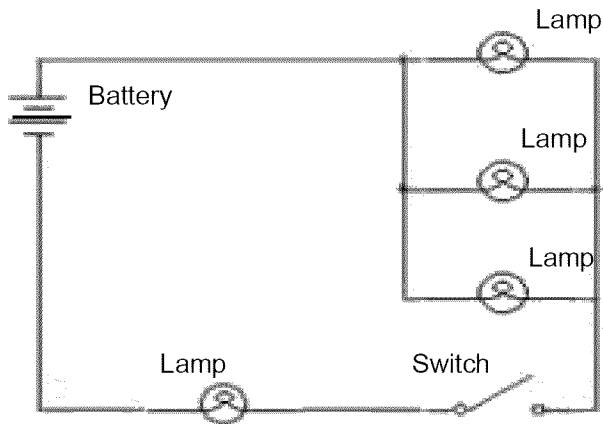

Figure 7.30
- Series/parallel circuits have some sections wired in series and some in parallel. See Figure 7.30.